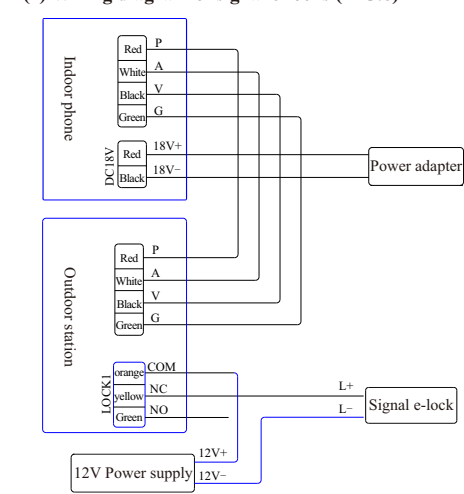

FIG. 6
(4) Wiring diagram of signal e-locks (FIG.6)